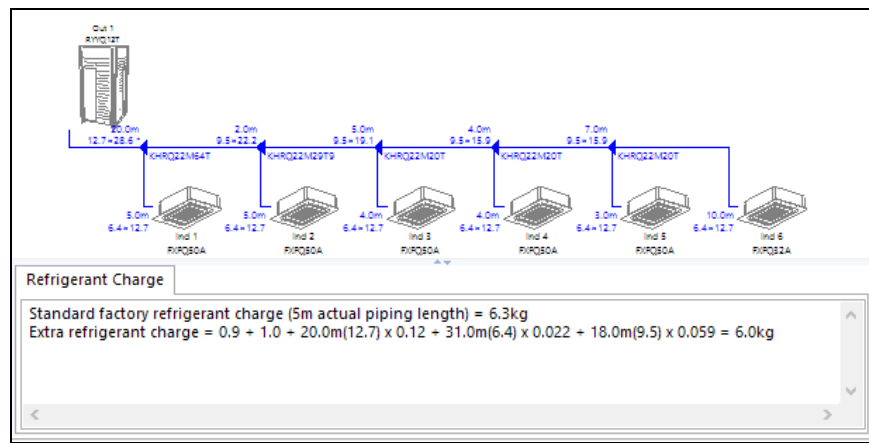
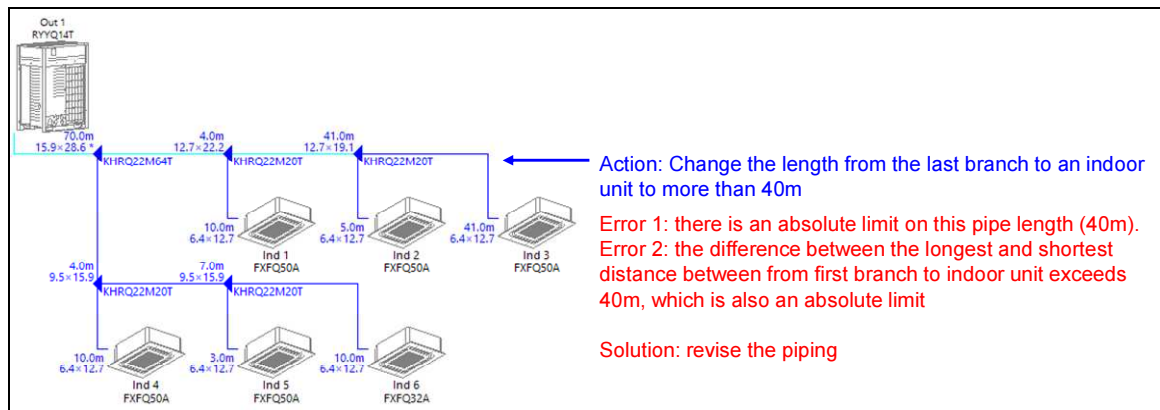

Figure 38: The diagram with the completed piping
Figure 44: Example of absolute piping limits
Closing the window then shows this piping piece in blue and VRV\_Xpress now displays the piping length above the diameters. You can repeat this process for all piping pieces to get a result as shown in Figure 38:
- Piping pieces (starting from the outdoor unit and see Figure 38): 20m + 2m + 5m + 4m + 7m + 10m = 48m.
- The equivalent length between the outdoor unit and indoor unit Ind6 is 48m + 2.5m. This length is the longest equivalent length found in the piping diagram of Figure 38.
- The actual length between the outdoor unit and an indoor unit is the sum of the piping pieces between them. So, an actual length is shorter or equal an equivalent length. The longest actual length found in the piping diagram of Figure 38 is the one between the outdoor unit and indoor unit Ind6.
- The first branch is the first REFNET joint starting from the outdoor unit. The length from the first branch to indoor unit Ind6 is (see Figure 38): 2m + 5m + 4m + 7m + 10m = 28m. This is the longest of those actual lengths.
- To get the length difference between two indoor units, calculate the first branch length for both and subtract both distances. The distance difference between indoor unit Ind1 and indoor unit Ind6 is (see Figure 38):
There are also limits, which you cannot extend through sizing up. Figure 44 illustrates the most common situation:
In a linear connection scheme as for example in Figure 38 it happens frequently that you exceed the maximum length difference between indoor units (see section 3.3: the length difference between the longest and shortest distance from first branch to indoor unit cannot exceed 40m). The only solution in such a case is equally (partially) revising the piping diagram, by splitting up the piping into two sections, as shown in Figure 44.